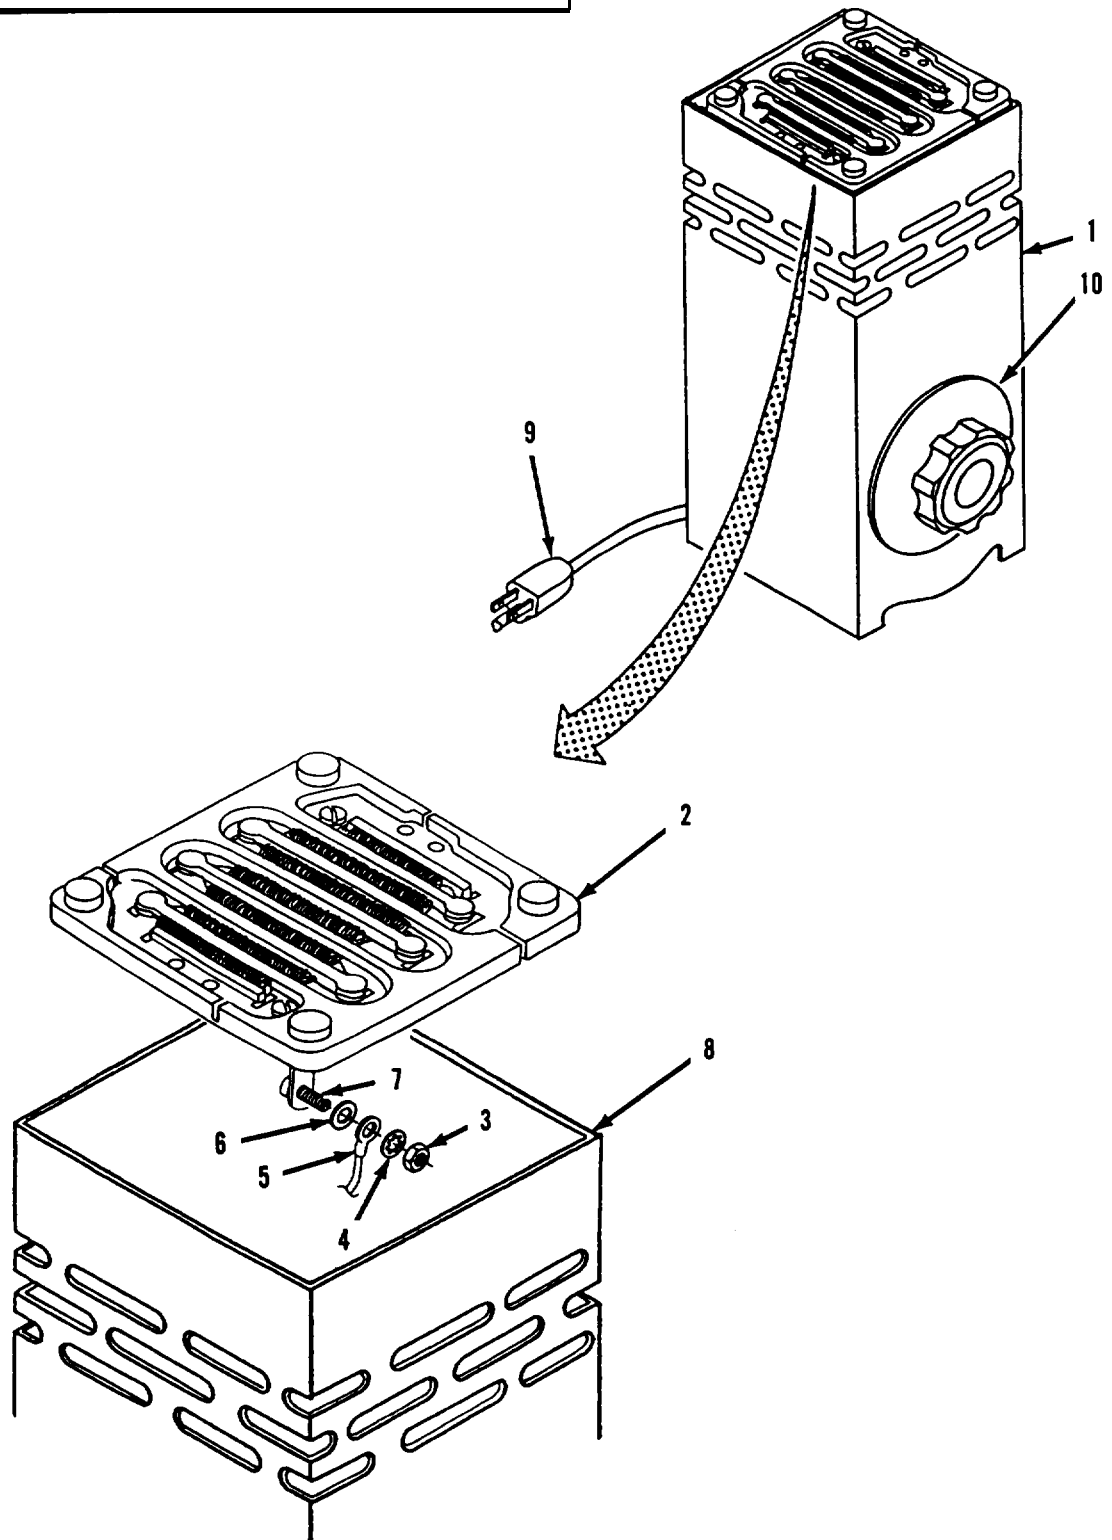

Figure 4-6. Distillation Unit Heater Element Installation.
e. Installation. Refer to figure 4-6,
- (1) To aid installation, lay heater housing (8) on its side.